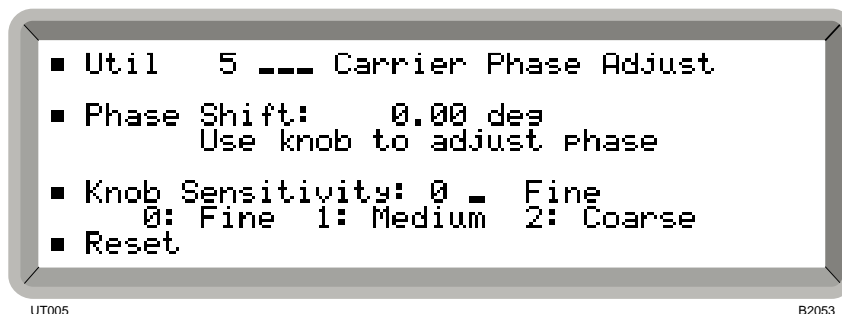

Fig. 4-15 Carrier phase adjust menu
- (1) Select the *Util 5: Carrier Phase Adjust* menu. This shows the currently selected phase shift setting (see Fig. 4-15).